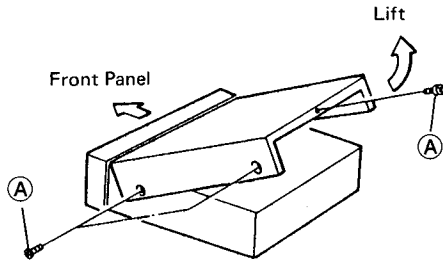

Figure 1
## 1. Removal of Cover (Figure 1)
Remove screws (A), then lift and remove the cabinet as shown in Figure 1.